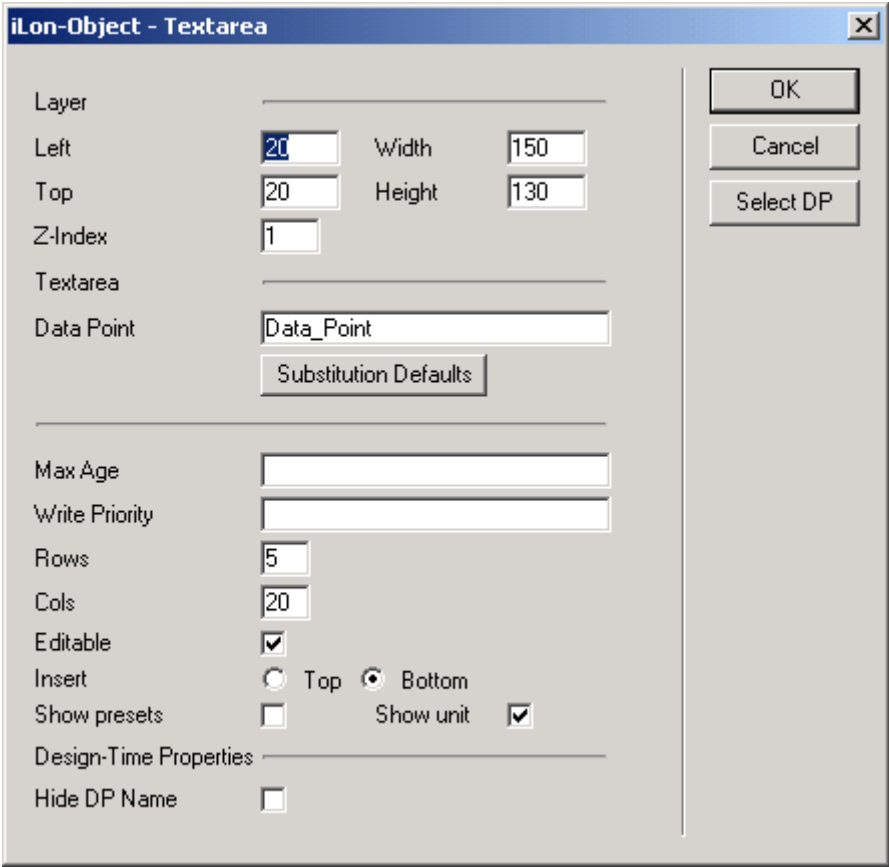

Figure 13.34 Text Area Dialog
1. Open a draft of a Web page, click the **iLON** button, and then select **Textarea**. An icon is inserted on the Web page where the text area will be displayed, and the dialog shown in Figure 13.34 opens.